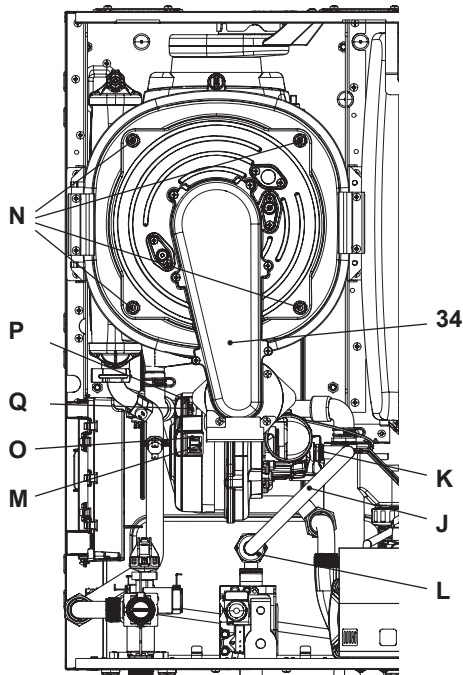

Fig. 9.9
Removing the fan burner unit 34 in Fig. 9.9.
- Insert a flat screwdriver in the connector recess M and lever towards the bottom, disconnect the connector at the same time O by pulling towards the front O (Fig. 9.9).
- Disconnect the fan connector P by pressing the plastic hook Q positioned at the bottom part of the connector (Fig. 9.9).
- Unscrew screws N and remove the fan burner unit 34 (Fig. 9.9)
the burner group fan 34 (Fig. 9.9)